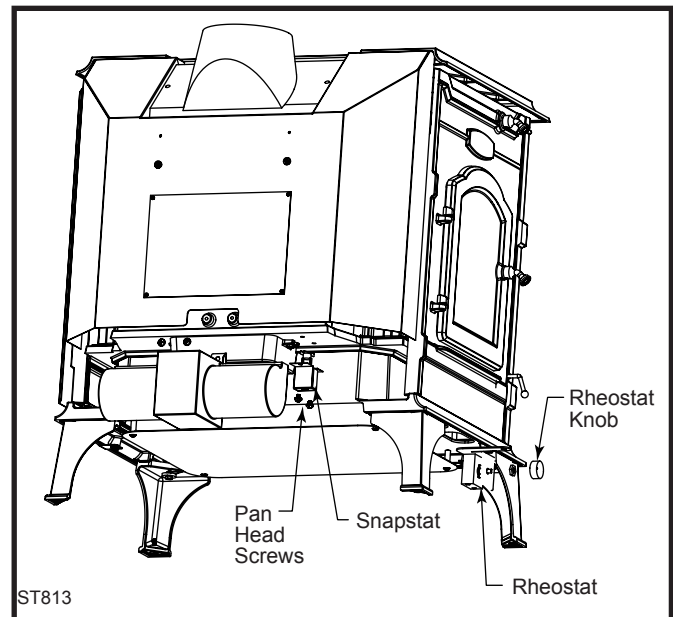

Fig. 18 Fan installation.
1. Secure the fan assembly to the inner back with two (2) 1/4-20 x 3/4" hex head screws and one (1) 1/4" star washer as shown in Figure 18.
2. Attach snapstat to the mounting holes on the underside of the bottom with two (2) 1/4-20 pan head screws.